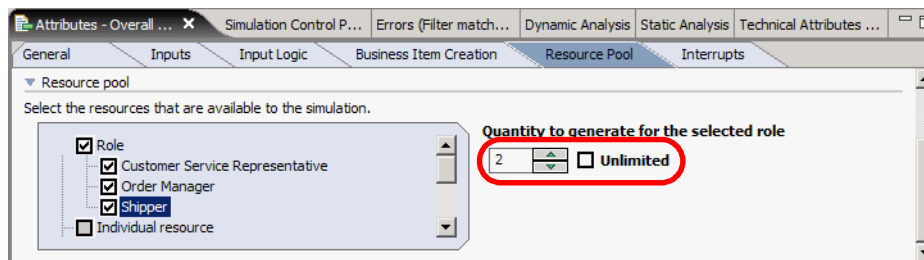

Figure 7-13 Simulation profile: Resource pool
On the *Resource Pool* tab, for the three roles, deselect *Unlimited* and set the quantity to one (1), except that we employ two shippers (Figure 7-13).